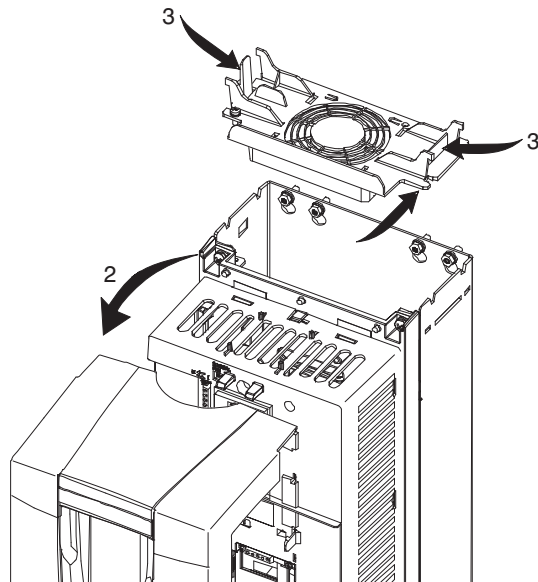

Fig. 35 — Remove Top Cover on ACH550 VFD
3. Press together the retaining clips on the top cover and lift (see Fig. 35).